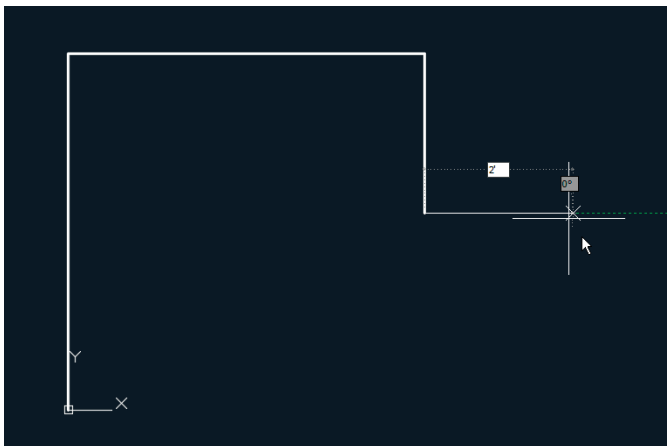

FIGURE 3.5 Drawing a line using Ortho mode and direct distance entry
6. Move the cursor around, and observe that green dashed lines appear in eight locations around a circle (in 45 increments). Move the cursor to the right relative to the last point, type **2'** (or **600** for metric), and press Enter (see Figure 3.5). Press Esc to terminate the LINE command without deleting the last segment drawn.